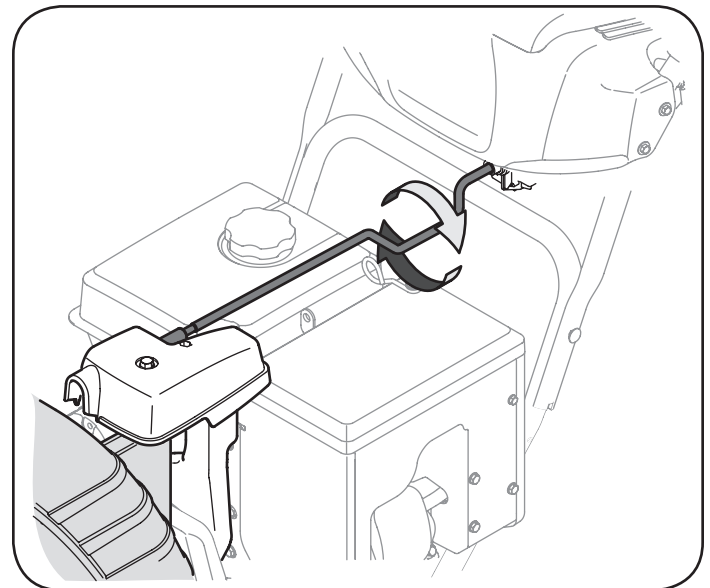

Figure 49
4. Grasp the indented portion of the chute control rod and manually rotate the chute to the right or to the left. See Figure 49.